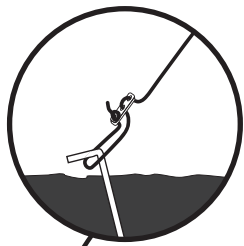

Fig. 10
- Attach and stake out guylines. (Fig. 10)
- Remove stakes and guylines. (Fig. 10 & 9)